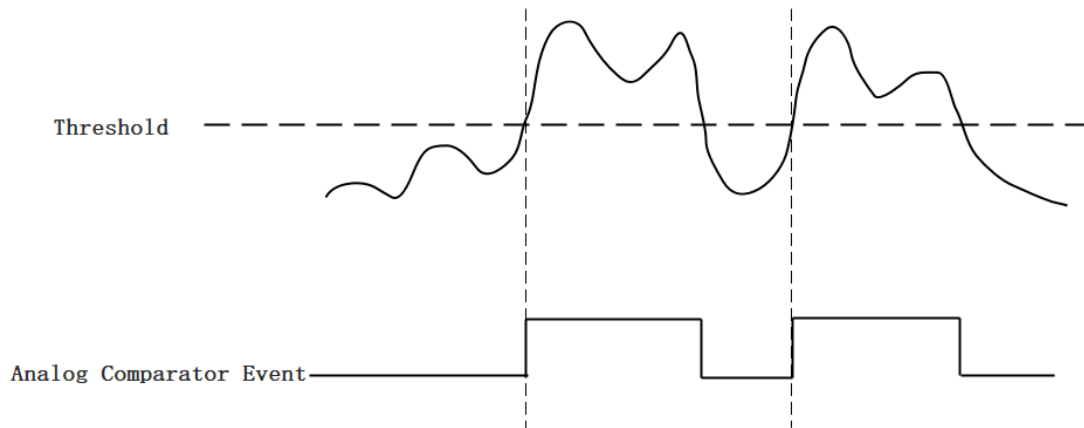

Figure 5 Rising Slope Trigger
*Rising Slope Trigger*: The Edge comparator output is high when the signal goes above the threshold; the output is low when the signal goes below the threshold as shown in Figure 5 Rising Slope Trigger.